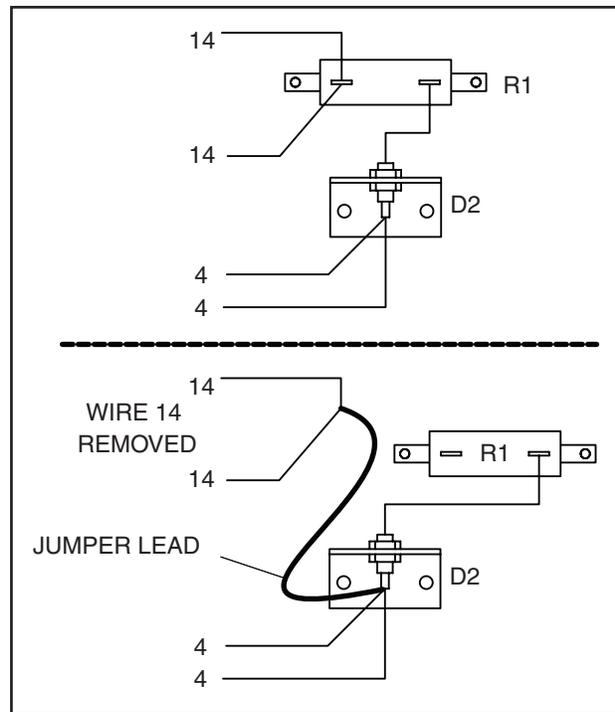

Figure 6-10. – Jumper Lead From Wire 14 to Diode
3. Connect a jumper wire between the removed end of Wire 14 and Wire 4 where it is soldered at the Diode (D1). See Figure 6-10.